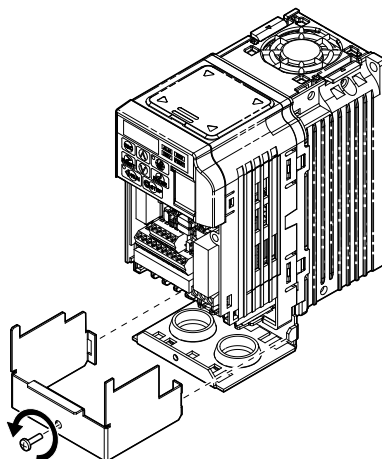

Figure 8 Remove the NEMA Type 1 Terminal Cover (CIMR-V□BA0001F to BA0003F, 2A0001F to 2A0006F)
6. For IP20/NEMA Type 1 enclosure models CIMR-V□□□□□□□F, loosen the screw on the front of the NEMA Type 1 terminal cover and remove it from the drive. Refer to **Figure 8** for details.